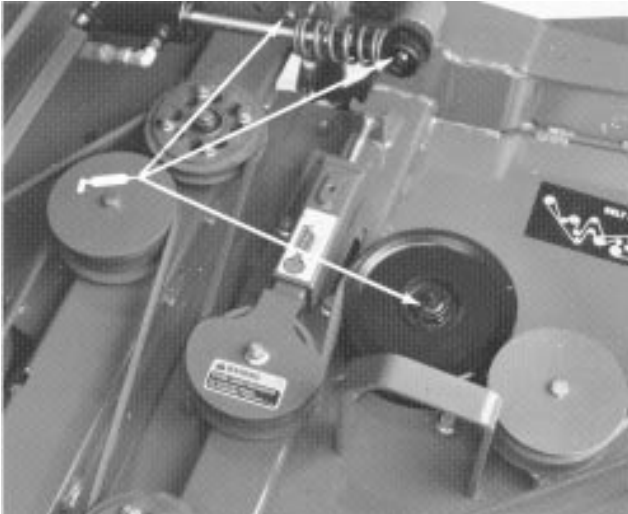

Figure 33
Cutting deck (2 & 4 wheel drive machines) – blade spindles (7), lift cylinder ball joints (4) and Wing Deck Pivot pins (4) (Fig. 33); Castor fork shaft (4) (Fig. 34); PTO to gear box drive shaft assembly (3) (Fig. 36); Wing Deck Ball Joints (4) (Fig. 36) and Lift arm ball joints (2) (Fig. 37).